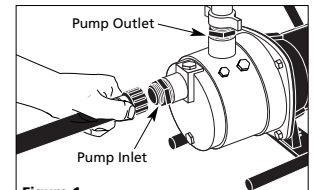

Figure 1
4. Connect inlet pipe or hose to pump. The inlet connection is designed for 1" NPT thread. Rigid pipe such as PVC will work fine for inlet and outlet pipe. (Reminder: Minimize length of pipe and number of fittings.) An adapter for garden hose is included (see Figure 1).
- Connect outlet pipe or hose to pump. The outlet connection is designed for 1" NPT thread. Rigid pipe such as PVC or garden hose may be used. An adapter to garden hose thread is included (Figure 1).
- Connect inlet pipe or hose to pump. An adapter to garden hose thread is included (Figure 1).